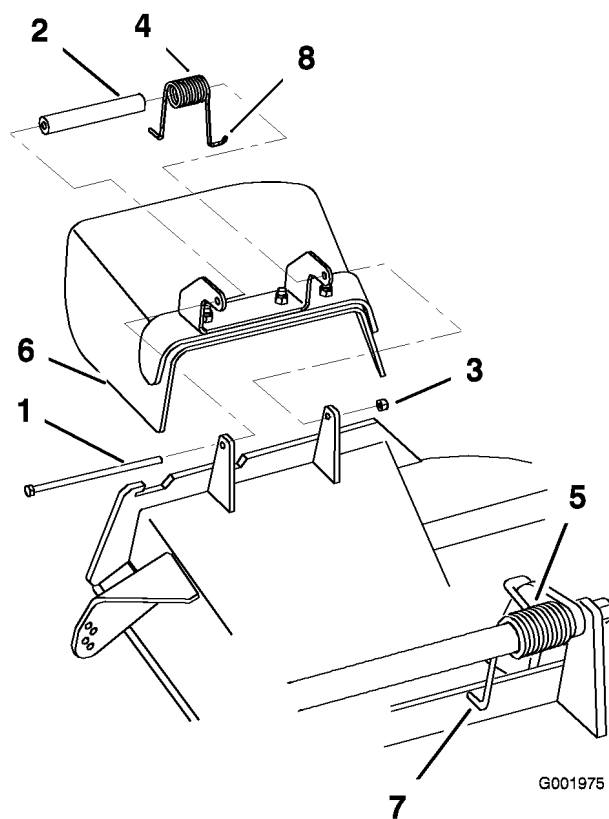

Figure 64
1. Remove the locknut, bolt, spring and spacer holding the deflector to the pivot brackets (Figure 64). Remove damaged or worn grass deflector.
Note: Make sure the L end of spring is installed behind deck edge before installing the bolt as shown in Figure 64.
3. Install bolt and nut. Place the J hook end of spring around grass deflector (Figure 64).